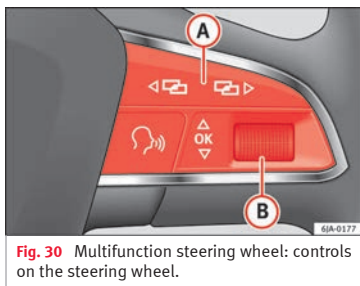

Fig. 30 Multifunction steering wheel: controls on the steering wheel.
– The **Main menu** is enabled by pressing buttons **(A)** » Fig. 30 on the multifunction steering wheel.